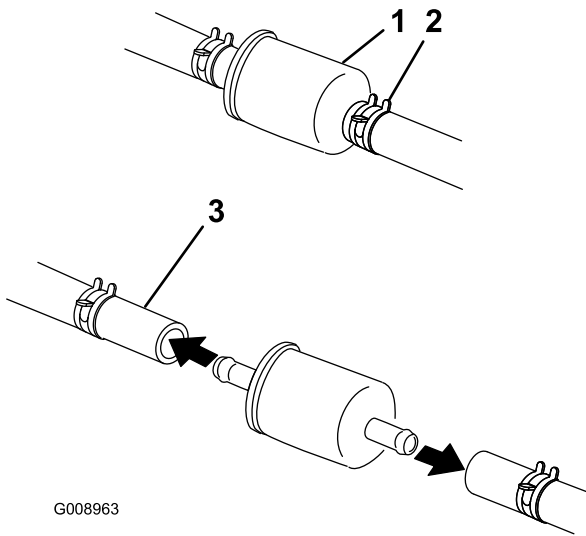

Figure 57
5. Close the fuel shutoff valve under the seat (Figure 57).
6. Squeeze the ends of the hose clamps together and slide them away from the filter (Figure 57).
8. Install a new filter and move the hose clamps close to the filter (Figure 57).